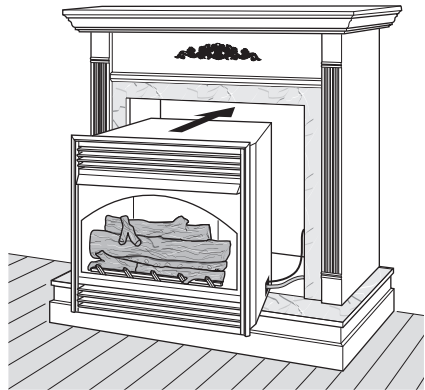

Figure 12 - Inserting Firebox Into Cabinet Mantel (Model May Vary From Illustration)
5. Carefully insert firebox into cabinet mantel. Be careful not to scratch firebox, cabinet mantel, flooring, etc. when installing (see Figure 12).